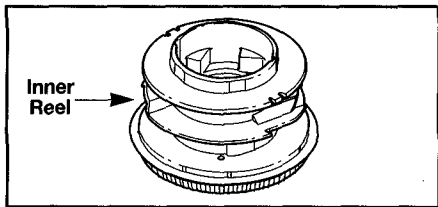

Fig. 26
3. Remove any debris or grass from the Bump Knob, foam seal, spring assembly, and inner reel. Remove any existing line from the inner reel before cleaning. Wash the inner reel with warm soap and water (Fig. 26).